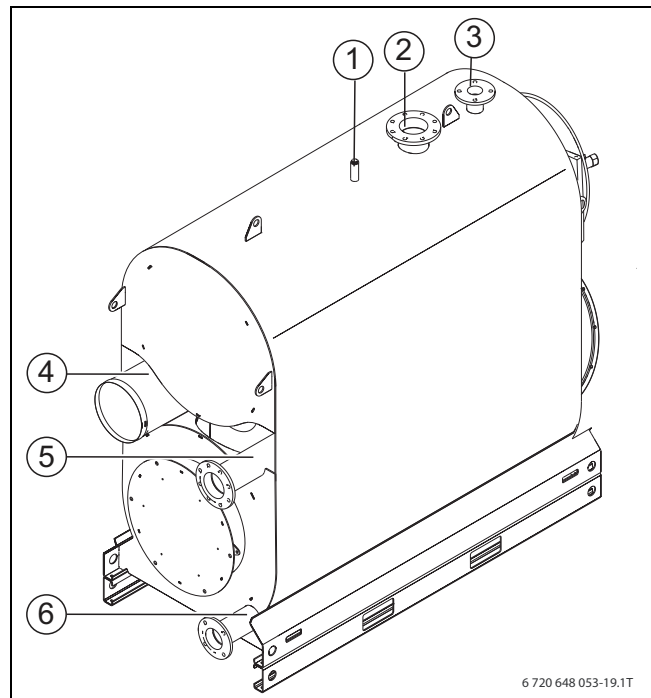

Fig. 15 Boiler connections
- Connect the safety valve to the safety flow connection (VSL) (→ fig. 15, [3], page 20). In open-vented systems, the flow safety line is connected to the connection (VSL).